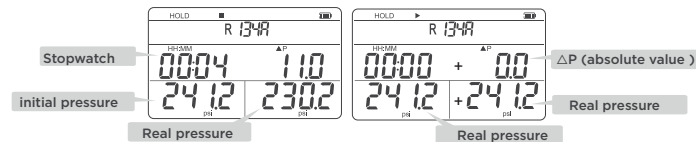

Fig. 5 HOLD Mode Fig. 6 Test stop and data reset
4. Press **▶** to start the test. The icon **■** appears and the timer starts. The initial pressure is displayed at the bottom left and the actual pressure at the bottom right. The pressure difference P in absolute value (positive) is displayed on the screen and allows monitoring the evolution of the system pressure (Figure 5). By default, the test duration is set to 48h. At the end of this time, the device will display whether the test has failed (FAIL) or succeeded (SUCC). The test duration can be changed via the AI TOOLS smartphone application. The test is considered successful if the pressure value does not drop more than 1% at the end of the period. This percentage can be modified in the AI TOOLS application.
Note : When the "Hold" parameter is ON (see paragraph 3.7), this means that temperature compensation is activated during the leak test. In this case, the pressure displayed at the bottom right (Figure 5) is no longer the actual pressure measured by the sensor, but the temperature-compensated pressure value according to Gay-Lussac's law.